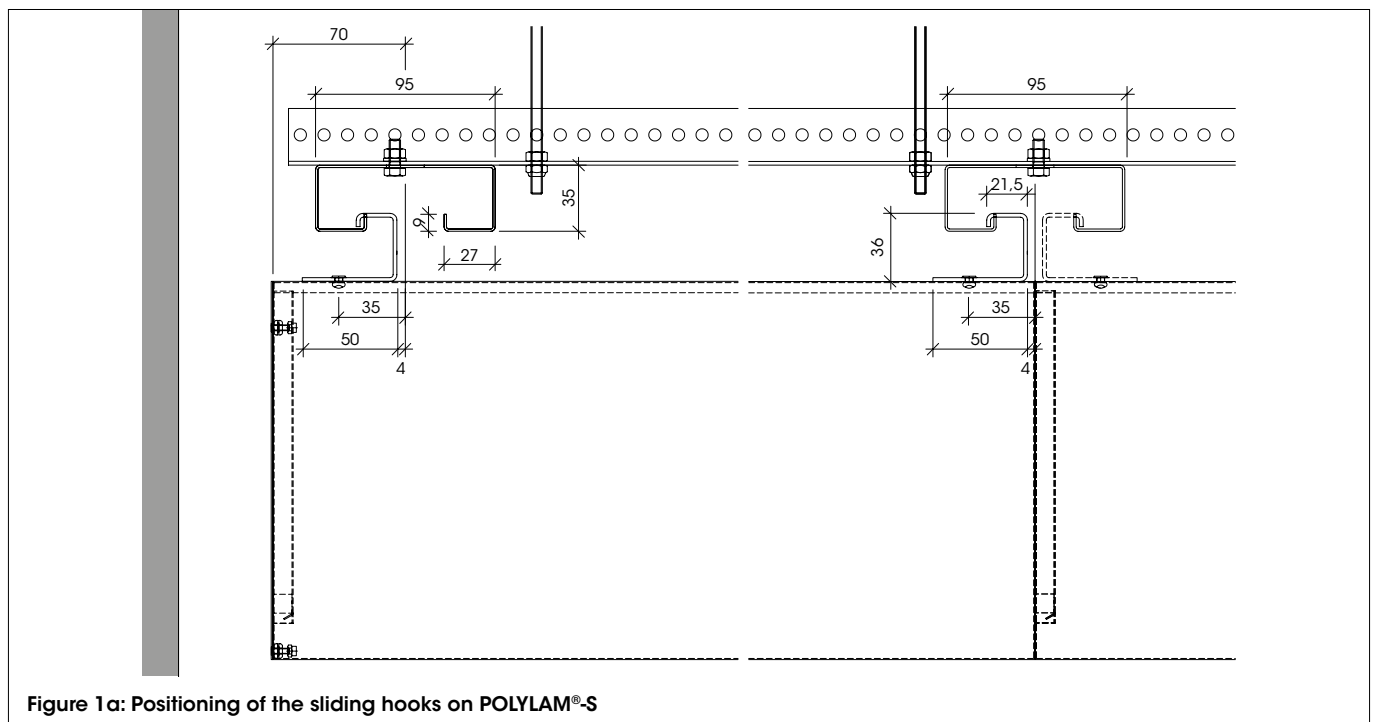
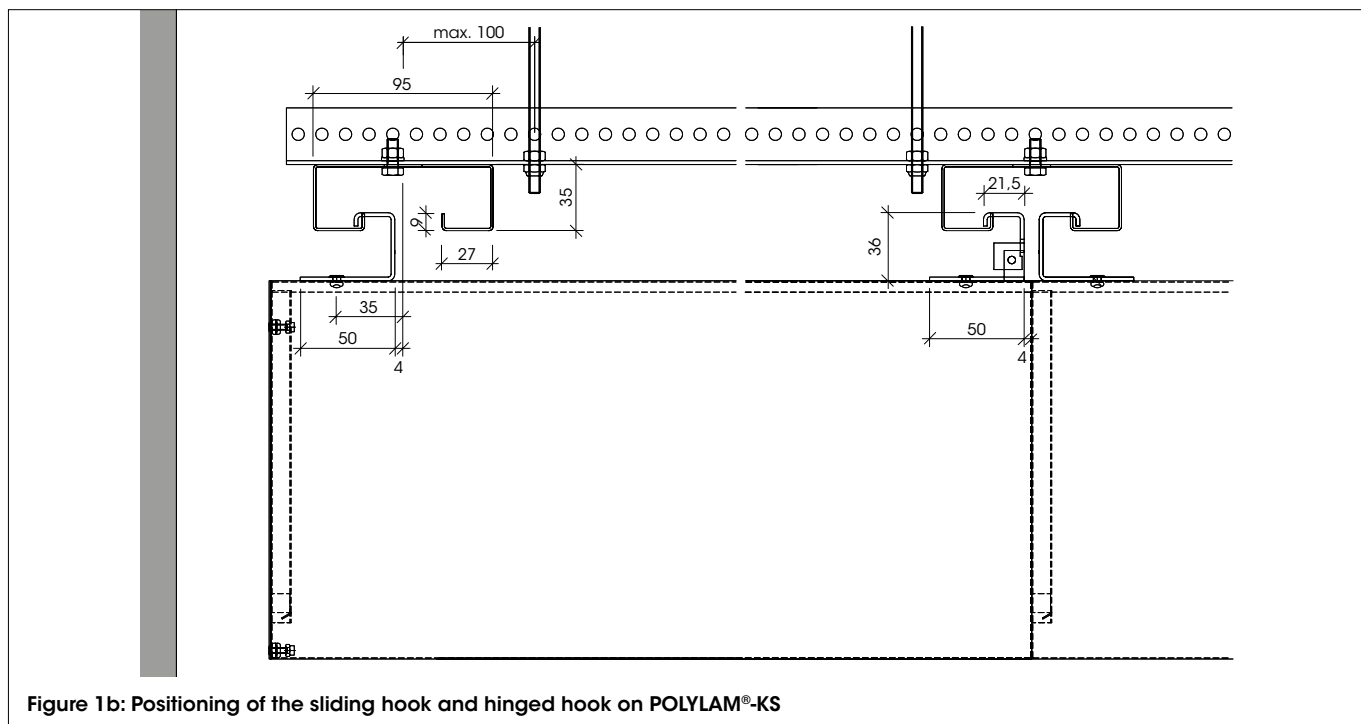

Figure 1a: Positioning of the sliding hooks on POLYLAM®-S
Figure 1b: Positioning of the sliding hook and hinged hook on POLYLAM®-KS
- 8.2. The supplied sliding hooks for POLYLAM®-S [figure 1a] or hinged and sliding hooks for POLYLAM®-KS [figure 1b] must be riveted to the top of the baffles in the pre-punched rivet holes with 2 blind rivets [4x6 al-vz] each.